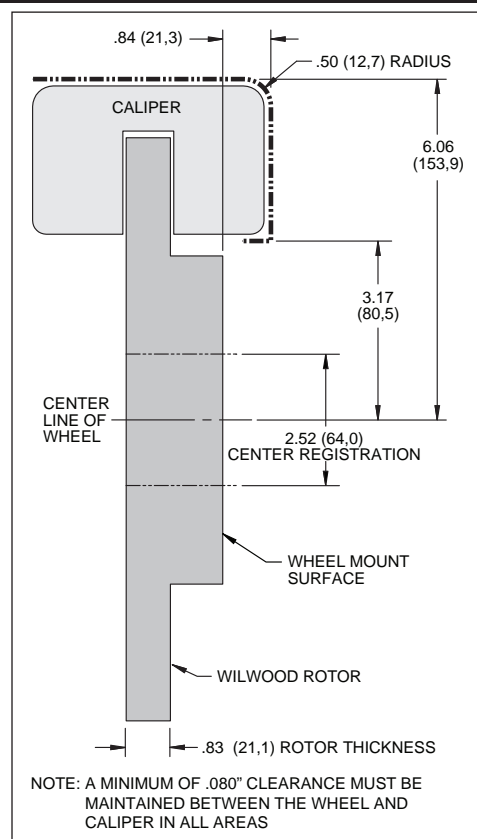

Figure 2. Wheel Clearance Diagram
NOTE: This kit will not work with vehicles equipped with OE 240mm rotors and spindles (even if upgraded to 262mm rotors) due to the lower height of the caliper mount points on these spindles. This kit will require a minimum of 15" diameter wheels and may not fit all OE or aftermarket 15" rims without spacers or special offset replacement wheels. Please verify your wheel clearance using Figure 2, on page 3 of this instruction sheet before attempting installation of this kit.
- Review the Wheel Clearance Diagram (Figure 2, page 3) to verify that there is adequate clearance with the wheels you will be using with the installation.
• Make sure this is the correct kit to fit the exact make and model year. This kit is specifically designed as a direct bolt-on Original Equipment (OE) replacement for Honda / Acura vehicles with 262mm (10.32") diameter rotors.
• Verify your wheel clearance using Figure 2.